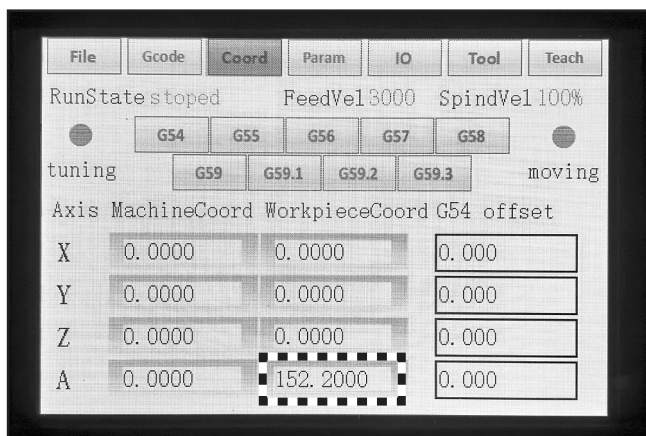

Figure 13. Example of "A" WorkpieceCoord cell displaying coordinates.
7. Press and hold one of the enable buttons on either side of DSP controller and rotate MPG wheel clockwise and counterclockwise several full rotations. WorkpieceCoord cell for "A" (4th-axis) will display coordinates as rotary table turns (see **Figure 13**).